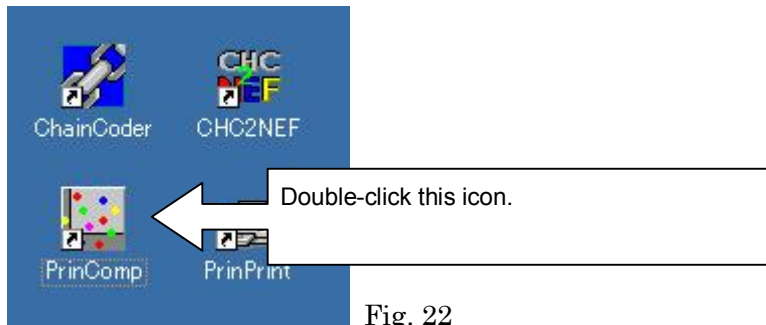

Fig. 22
22. Start “PrinComp” with double clicking the “PrinComp” icon (Fig. 22).